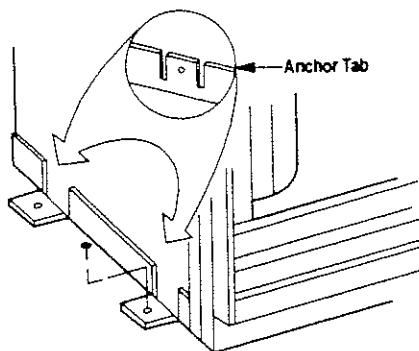

Figure 19
**Step 4.** Fireplace may be anchored to floor. Bend down four (4) anchor tabs located at the base of the fireplace and secure to the floor by nailing with 8d nails (Figure 19).